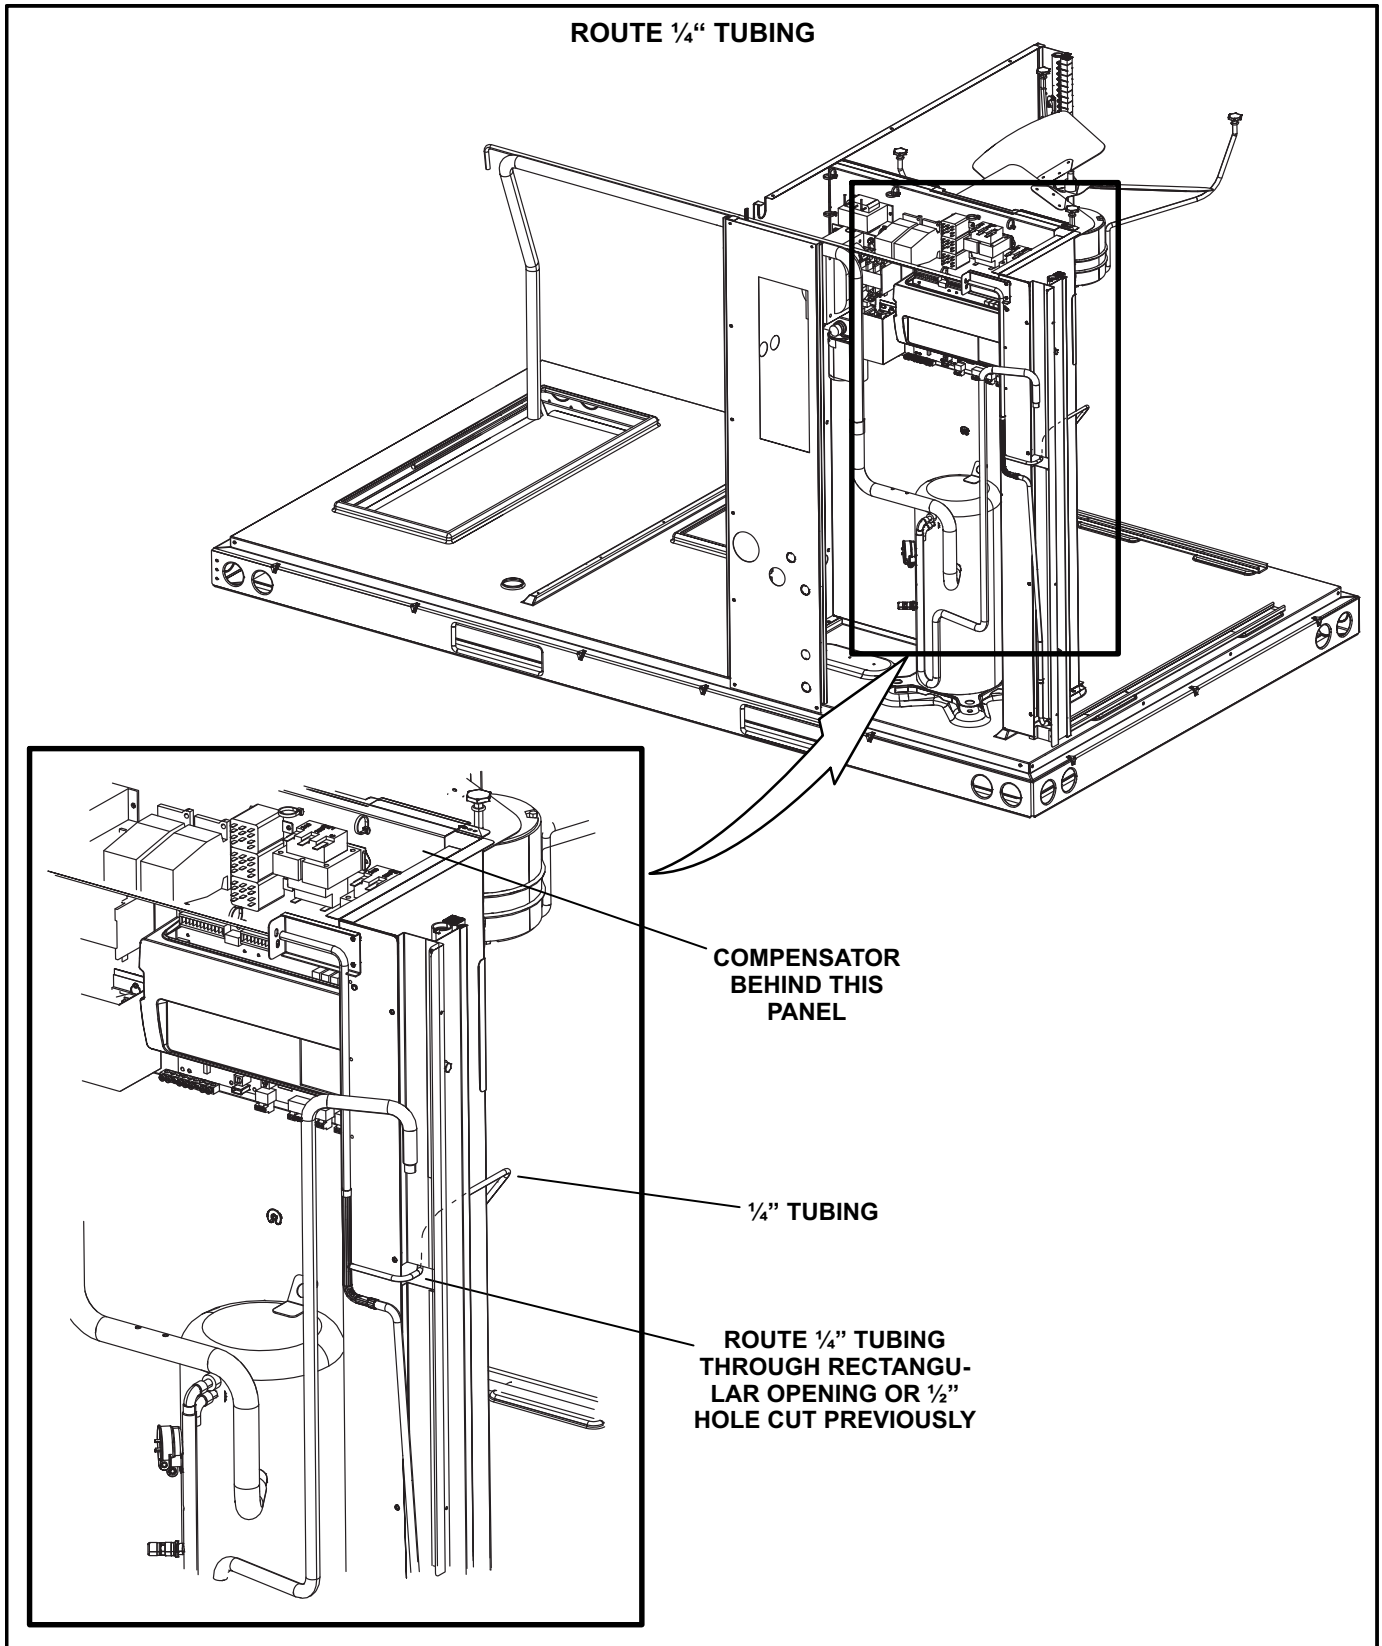

FIGURE 7
- 11- Fit the 1/4" tubing between the compensator and the opening in the panel. See figure 7.